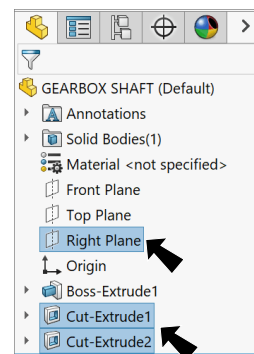

Fig. 16
Step 1. **Ctrl click Right Plane** , **Cut-Extrude1** and **Cut-Extrude2** feature to select Plane and features, **Fig. 16**.